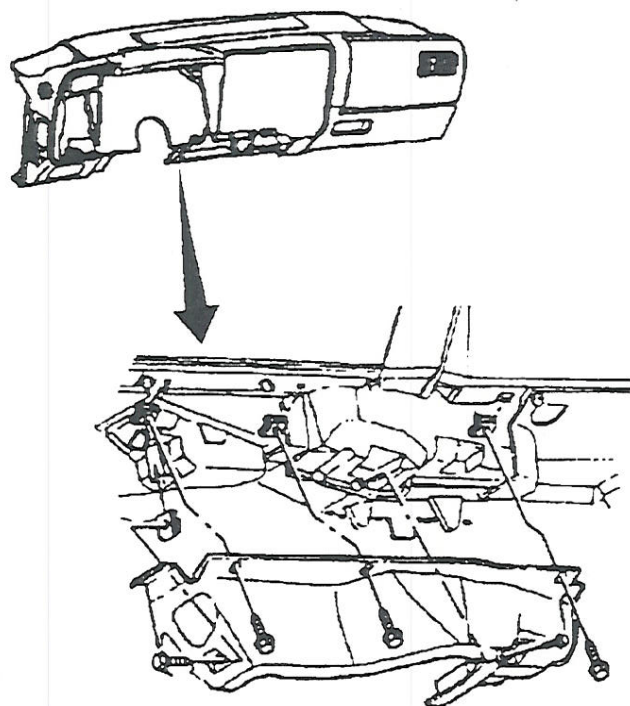

Fig. 22 Center instrument panel sound insulator removal. 1997 S & T Series & Bravada
6. Remove center instrument panel sound insulator as illustrated in Fig. 22.